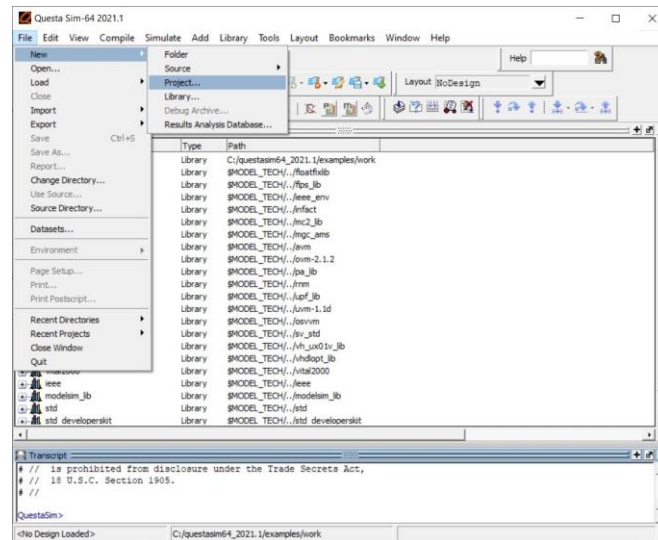

Fig. 2.2: Creating a new project.
1. Click on *File* then select *New* and then *Project*. (Fig. 2.2).